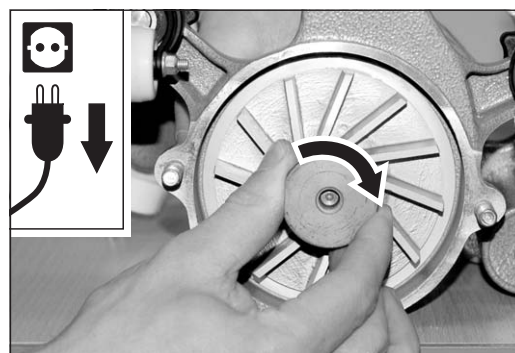

Fig. 47 Rotate the new motor pulley onto the motor shaft.
- 6 Rotate the new motor pulley onto the motor shaft **clockwise** (fig. 47).